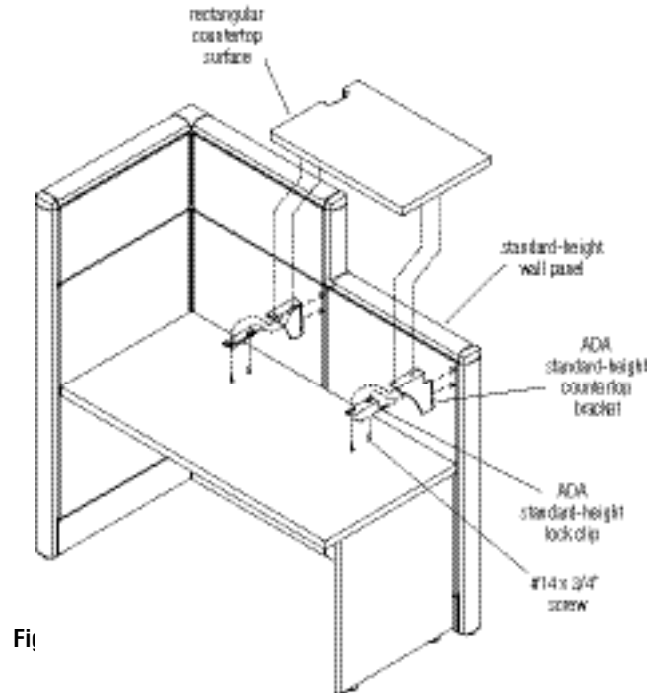

Fig 1
1. Rectangular countertops installed on standard-height panels require the use of two ADA standard-height countertop brackets, one right-, and one left-hand. Mount the countertop brackets into the slots in the post so the mounting flanges are 1/8" higher than the panel top caps. The right- and left-hand brackets will be different. Notice that the mounting flanges of the two outside brackets face inward as installed to the panel (Figure 1).
2. Carefully place the countertop surface face up onto the wall panel(s) and standard ADA countertop brackets. Align the holes of the two brackets with corresponding holes at each end of the countertop surface (Figure 1).
3. Take the left- and right-hand ADA standard-height lock clips and orient the pin ends into the post slots at the top tooth of each installed ADA standard height countertop bracket. Make sure the mounting flanges of the outside clips orient inward and that the mounting holes of the lock clip line up with the mounting holes of the bracket. Secure the brackets and lock clips to the underside of the countertop with two #14 x 3/4" screws at each bracket location. (Figure 1).